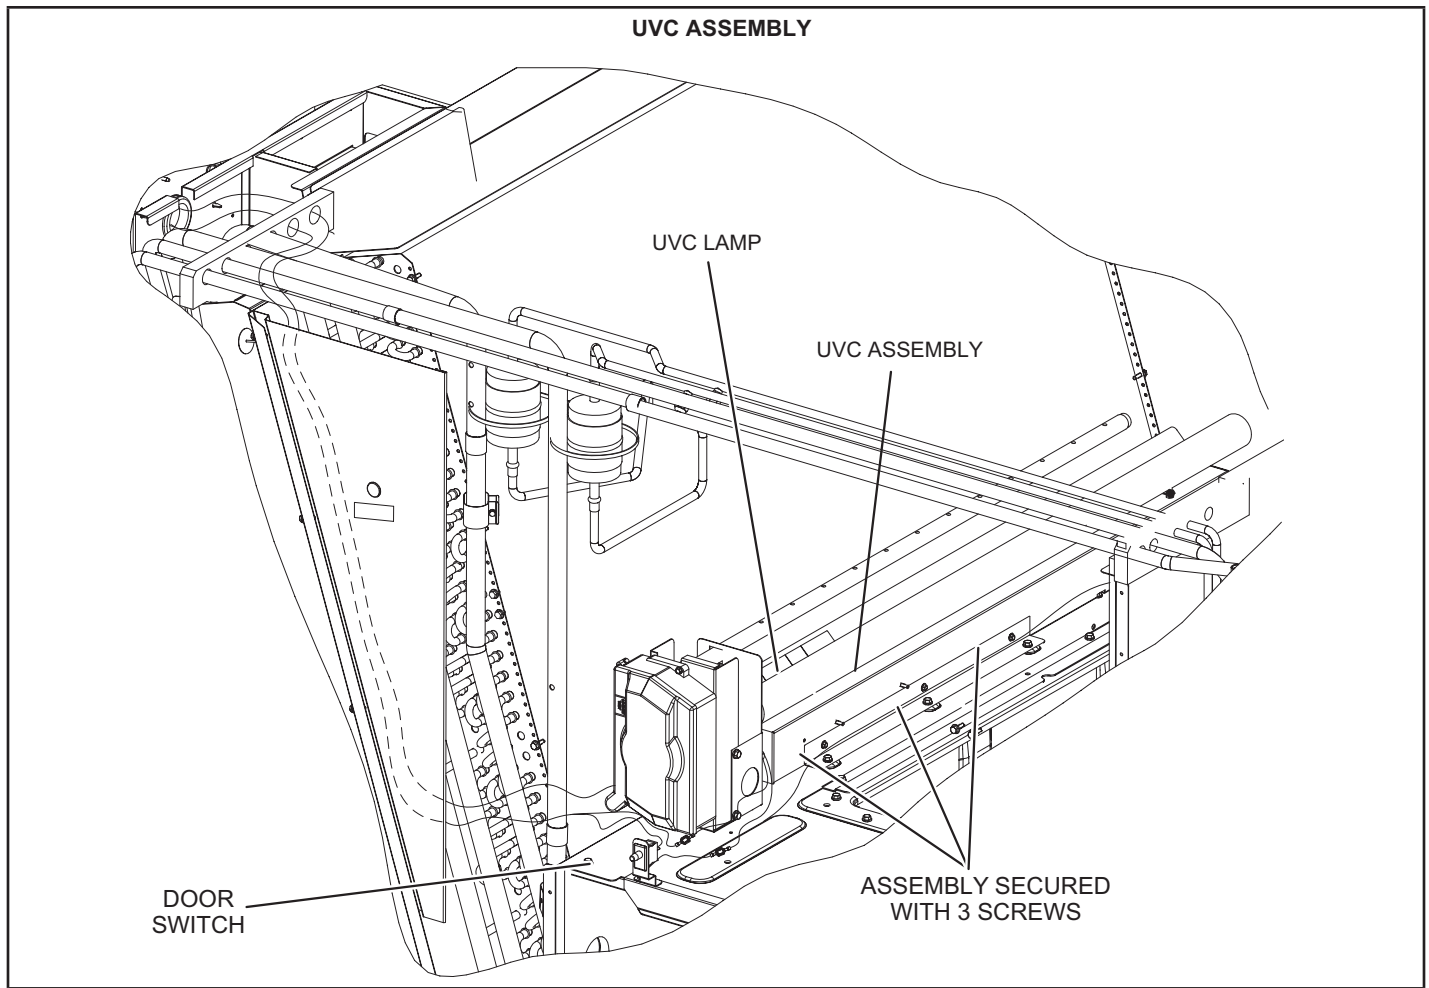

FIGURE 37
When the UVC light is factory installed, the lamp is shipped in a foam sleeve. The lamp is attached to the UVC light assembly on the blower deck. See FIGURE 37. Remove the lamp and install into the UVC light assembly as shown in steps 2 through 11.
- 5 - Remove and retain the (3) screws securing the UVC assembly. Carefully slide the complete UVC assembly out through the blower access door. See FIGURE 37.
- 8 - Carefully place the UVC assembly on the blower deck. Line up the mounting holes on the UVC assembly with the mounting holes on the blower deck. See FIGURE 37. Use the retained screws provided to attach the UVC assembly in place.